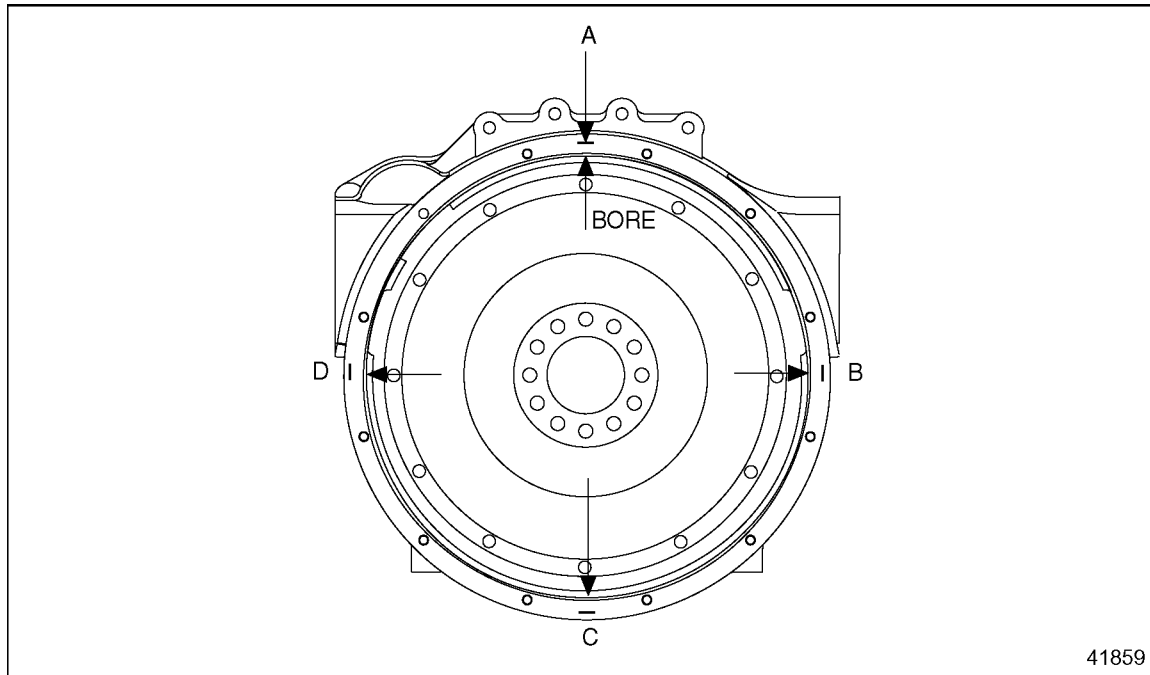

Figure 9-19 Flywheel Housing
- [e] Bar the engine and rotate the crankshaft one complete revolution, taking readings at 90 degree intervals (four readings each for the bore). See Figure 9-19.